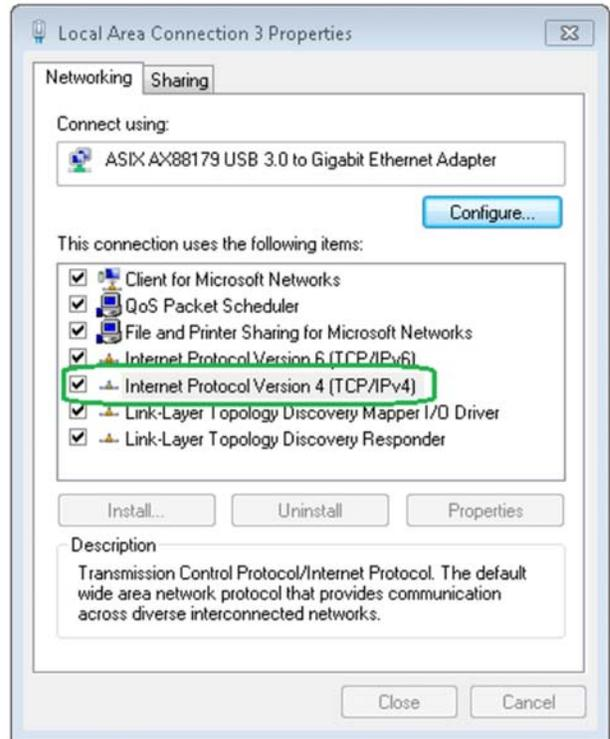

Figure 177. Select **Internet Protocol Version 4 (TCP/IPv4)**
2. Select **Networking** and check **Internet Protocol Version 4 (TCP/IPv4)**, as shown in Figure 177.